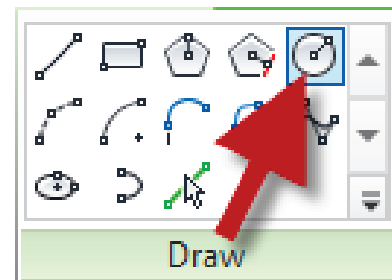

FIGURE 3-1.16 Detail Line shapes
40. With the *Detail Line* tool active, select **Circle** from the *Ribbon* (Figure 3-1.16).